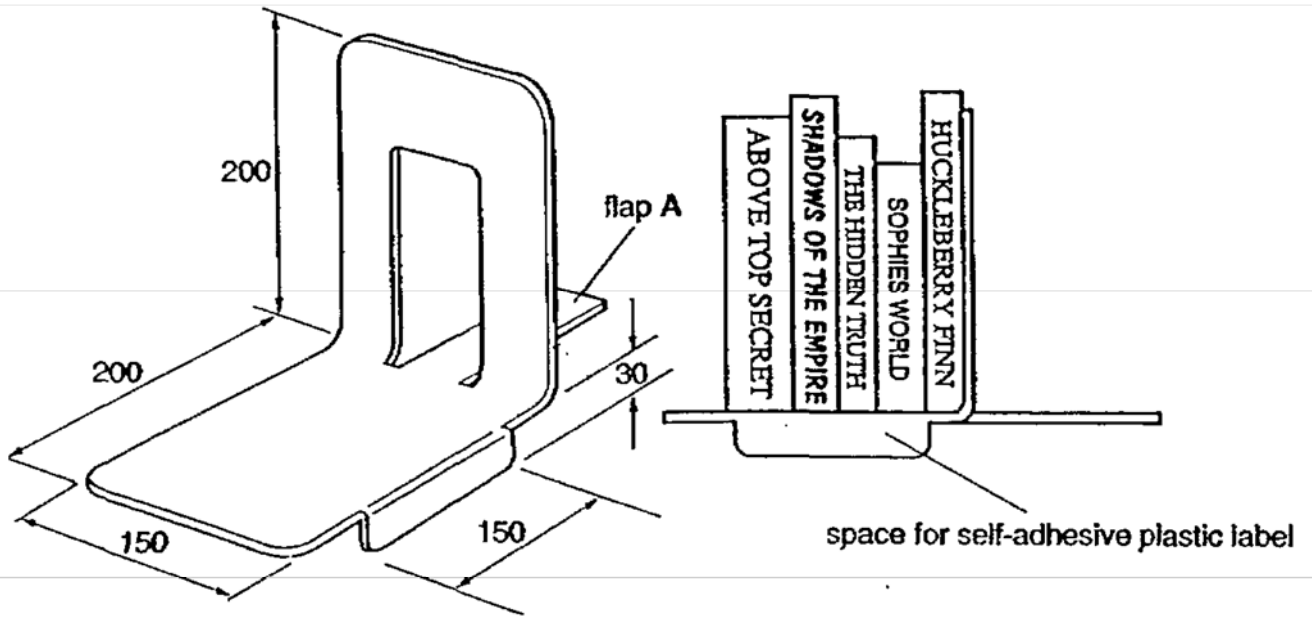

Fig. 5
- 4 Fig. 5 shows a bookend to be used in a school library. The bookend is made from sheet metal 1.6 mm thick.